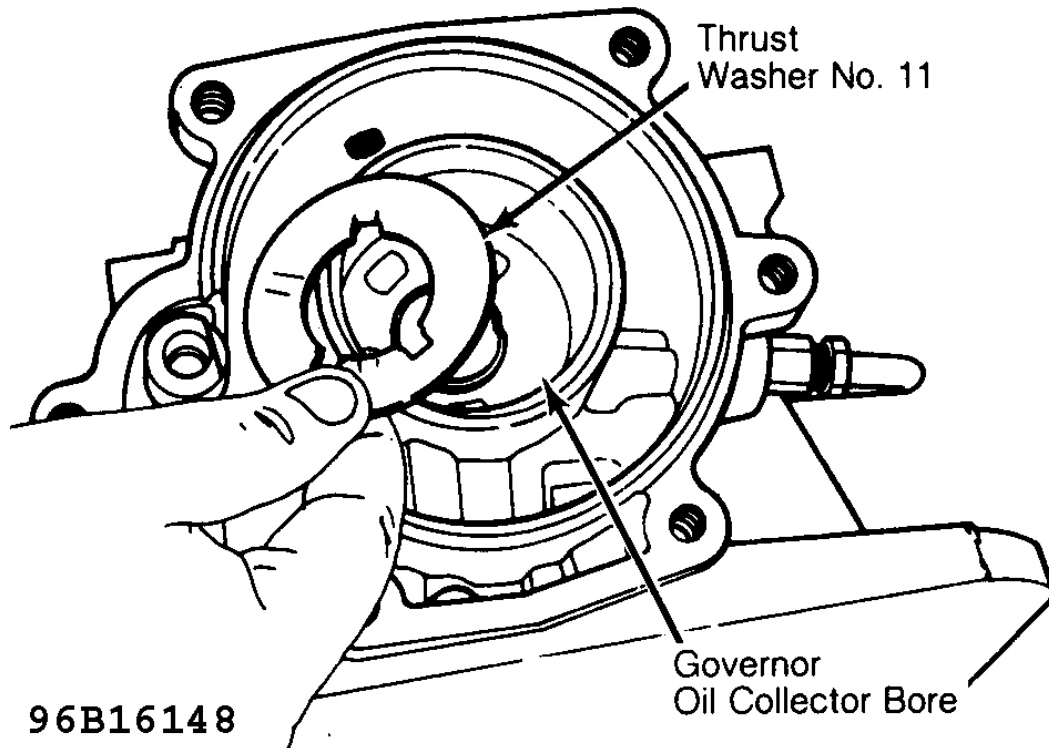

Fig. 17: Removing No. 11 Thrust Washer
3. Remove output shaft with governor flyweight, spring and valve. Remove governor collector body assembly. Remove No. 11 thrust washer from governor/oil collector bore. See **Fig. 17** . Remove reverse band. Remove No. 10 thrust washer from one-way clutch inner race.